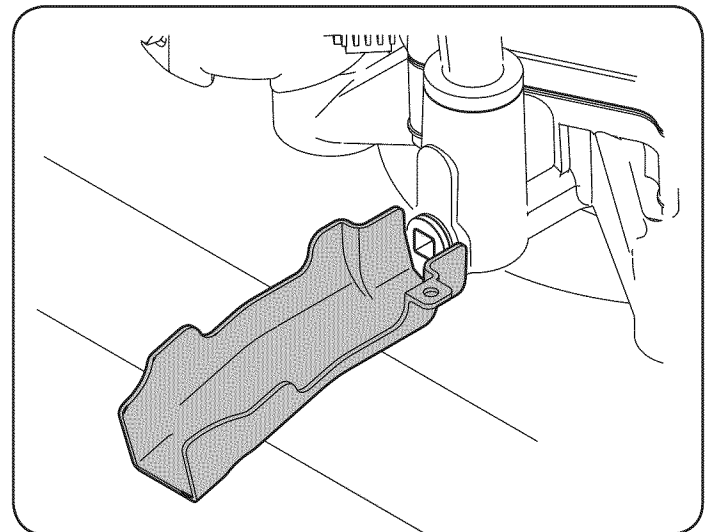

Figure 10
6. Attach the oil drain hose (*packed with this manual*) on the drain port as shown in Figure 10. Place the opposite end of the sleeve in a container suitable for collecting oil with a capacity of not less than 64 oz.